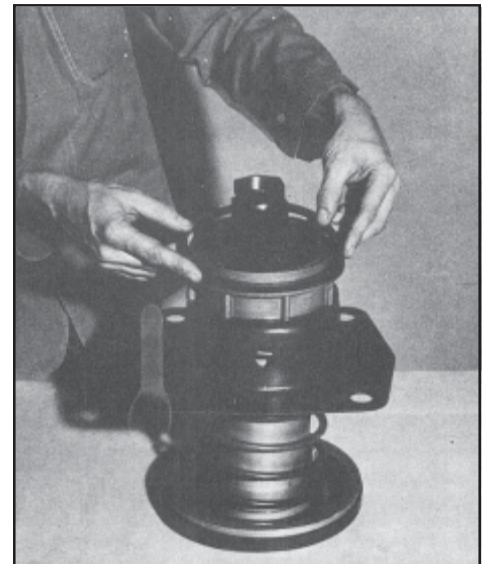

Figure 39
4.3.6 Position hollow rod guide gasket on hollow rod guide. Make certain gasket remains positioned properly by applying a light film of brake cylinder lubricant to the gasket before positioning (See Fig. 39).